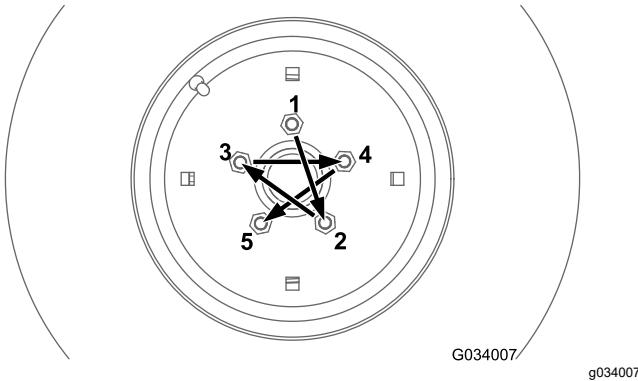
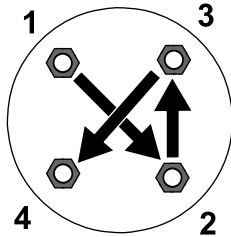

Figure 64
Figure 65
Torque the lug nuts at the front and rear wheels (4-wheel-drive machines only) in the pattern as shown in Figure 64 and Figure 65 to the specified torque.
- Front wheels: refer to Figure 64
- Rear wheels (4-wheel-drive machines only): refer to Figure 65